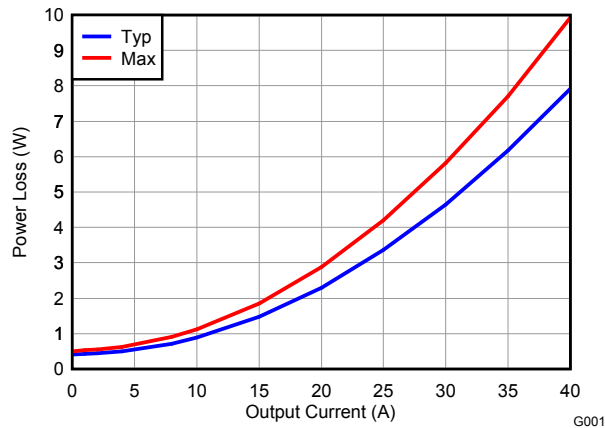

Figure 7. Power Loss vs Output Current
MOSFET centric parameters such as $R_{DS(ON)}$ and Q_{gd} are primarily needed by engineers to estimate the loss generated by the devices. In an effort to simplify the design process for engineers, Texas Instruments has provided measured power loss performance curves. Figure 7 plots the power loss of the CSD96370Q5M as a function of load current. This curve is measured by configuring and running the CSD96370Q5M as it would be in the final application (see Figure 18). The measured power loss is the CSD96370Q5M device power loss which consists of both input conversion loss and gate drive loss. Equation 1 is used to generate the power loss curve.
The power loss curve in Figure 7 is measured at the maximum recommended junction temperature of $T_J = 125^\circ\text{C}$ under isothermal test conditions.
- Power Loss at 25A = 3.3W (Figure 7)